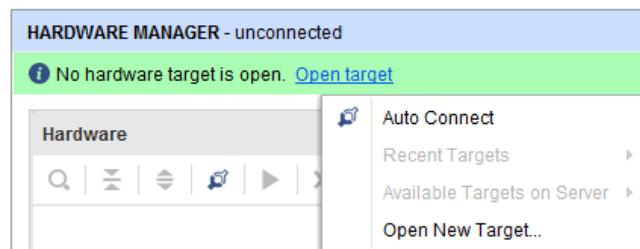

Figure 10.34: Hardware Manager view
- Use the **Open target** selection in the **Hardware Manager** view, to open a recent or a new hardware targets, see Figure 10.34.